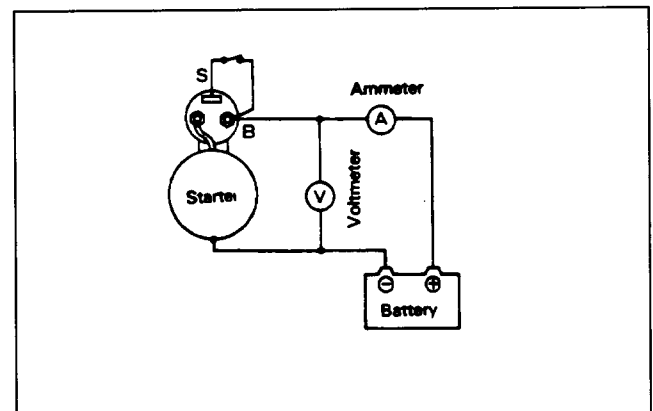

Figure 26
1. Connect a 12 volt battery, ammeter and voltmeter to the starter as shown (Fig. 26).